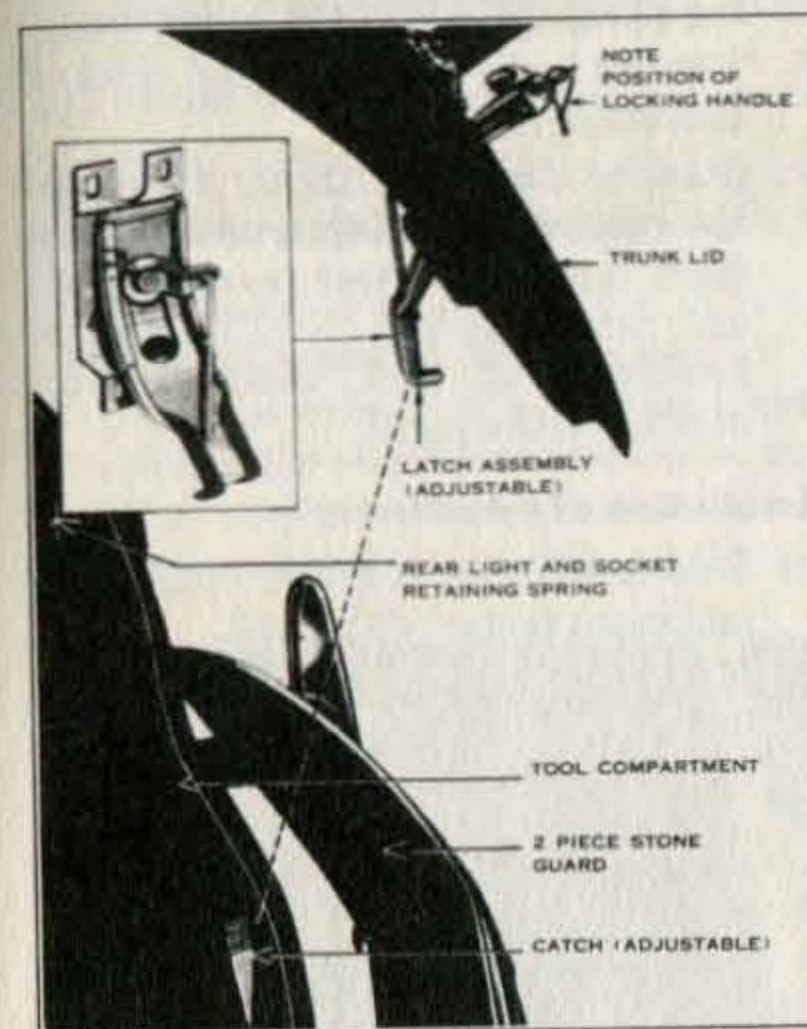

Fig. 32. Rear Deck Lid and Lock—Two-Passenger Coupe
**CAUTION**—To prevent head injury, always place rear deck lid lock handle in locked position any time lid is raised. This will raise catch beneath lid edge. See Fig. 32.